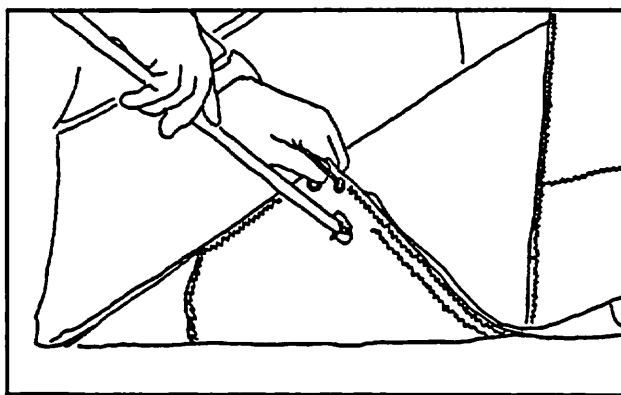

Figure 28
20) Install the plug-in #1 battens. (Figure 28, 29)